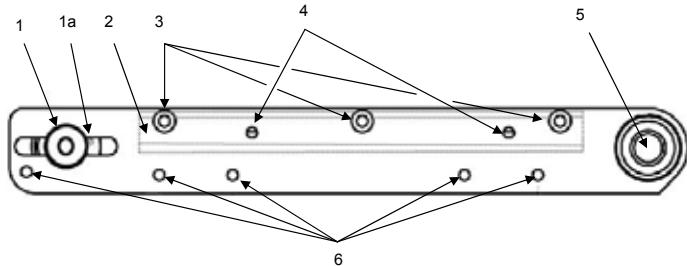

Fig. 2a — Conveyor Siderail (blank side)
6. Consideration should be given to installations that restrict access to removal of the siderail opposite the gearmotor (blank side, per Fig. 2a on Pg. 6) for cleaning or if belt replacement is required.
(See figs. 2a & 2b on Pg. 6)
3. Locate the belt tension lock screws (see figs. 2a and 2b, #1) and loosen -- do not remove -- using a 3/16" hex wrench.
5. Using a 1/8" hex key, remove T-slot (if equipped), then remove the Maintenance Access Screws (Fig. 2a, #3).
Figs. 2a and 2b (to the left) provide location of conveyor drive shaft, maintenance access screws, belt adjustment points and mounting holes. The following lists their description and function. **Fig. 2c** (bottom left) shows the controls located on the factory-supplied controller for those units equipped with the Variable-Speed option.